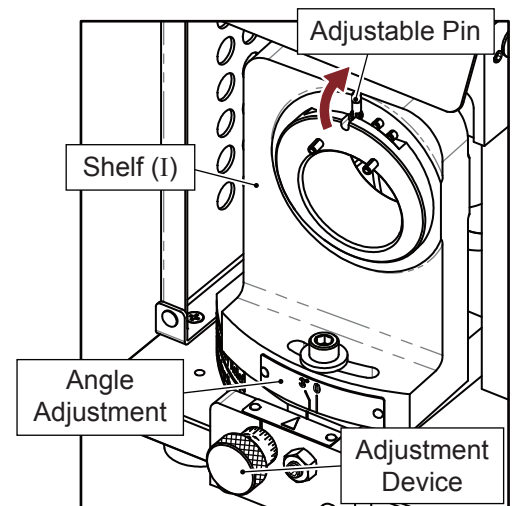

Fig. 9-1
### 1. Secondary Relief Grinding Shelf (I) (Fig. 9-1)
- ① Adjust Shelf (I) to  $3^\circ$ .
- ② Move the adjustable pin on Shelf (I) from the bottom to top.
- ③ Adjust the Cutting face adjustment device to “0”, after finishing the whole sharpening procedure, then adjust this device according to your needs. (See chapter “XIV. The use of the Cutting Face Adjustment Device”)